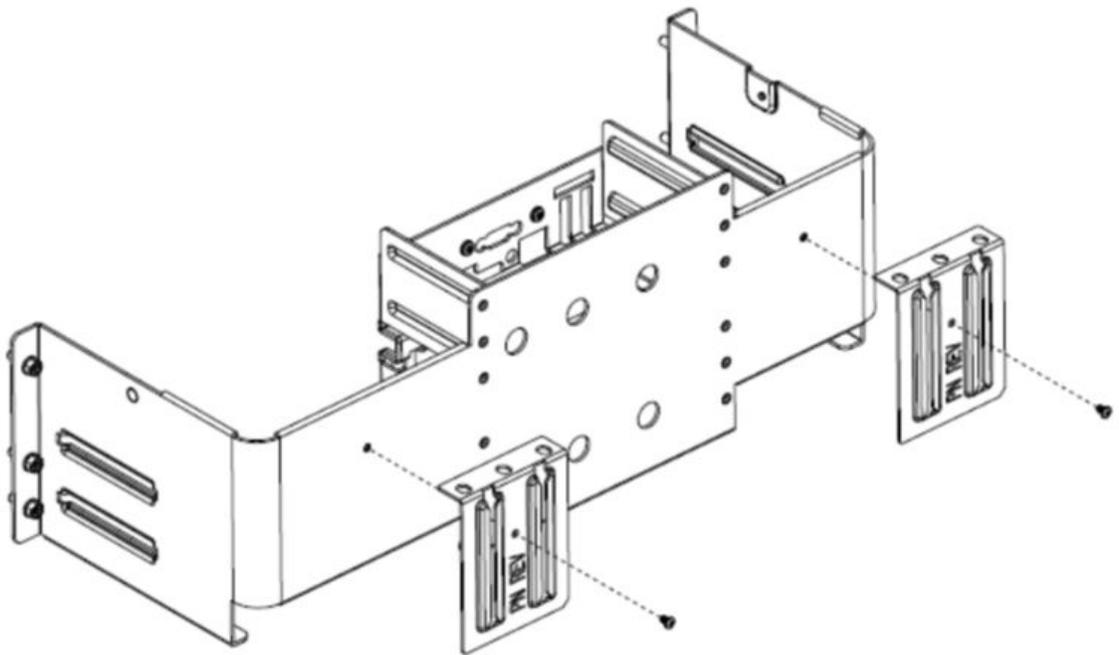

Figure 244. Removing the rail end brackets from the shipping bracket.
4. Remove the screws holding the rail end brackets to the shipping bracket as shown in Figure 244 on page 329